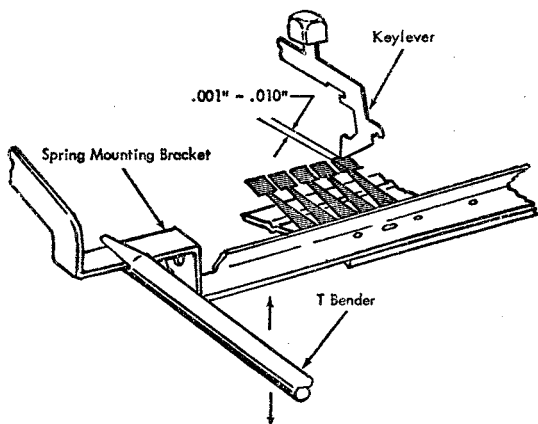

Figure 7. Resilient Keyboard Adjustment
**SPRING FINGERS.** Adjust by forming the spring-mounting bracket so that with the indicator at L and the keylevers depressed there is .001" to .010" between the spring fingers and the keylevers (Figure 7).